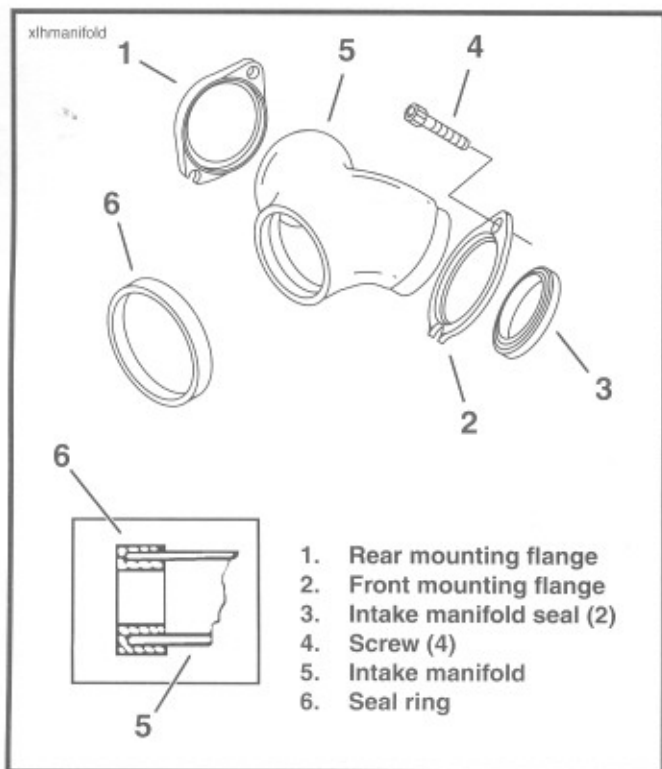

Figure 4-7. Intake Manifold
6. See Figure 4-7. Pull carburetor free of intake manifold (5). If removing intake manifold, remove four manifold mounting screws (4). Remove intake manifold, seal ring (6), mounting flanges (1 and 2) and two intake manifold seals (3).
1. See Figure 4-7. Place flanges (1 and 2) onto aluminum manifold (5).
2. Place intake manifold seals (3) onto each spigot of manifold with chamfered edge against flanges (1 and 2).
3. Place channel of seal ring (6) over inlet end of manifold.
4. Position manifold against intake ports of cylinder head, with slotted and round holes in flanges (1 and 2) aligned with holes in cylinder head. Insert screws (4) through manifold flanges and loosely thread into tapped holes in cylinder head.
5. Lubricate only the inside surface of seal ring (6) that will be in contact with the carburetor. Also apply a light coat of lubricant to the spigot of the carburetor body. Push carburetor body into seal ring (6).
7. See Figure 4-7. Final tighten intake manifold screws (4) to 6-10 ft-lbs (8-14 Nm) torque.